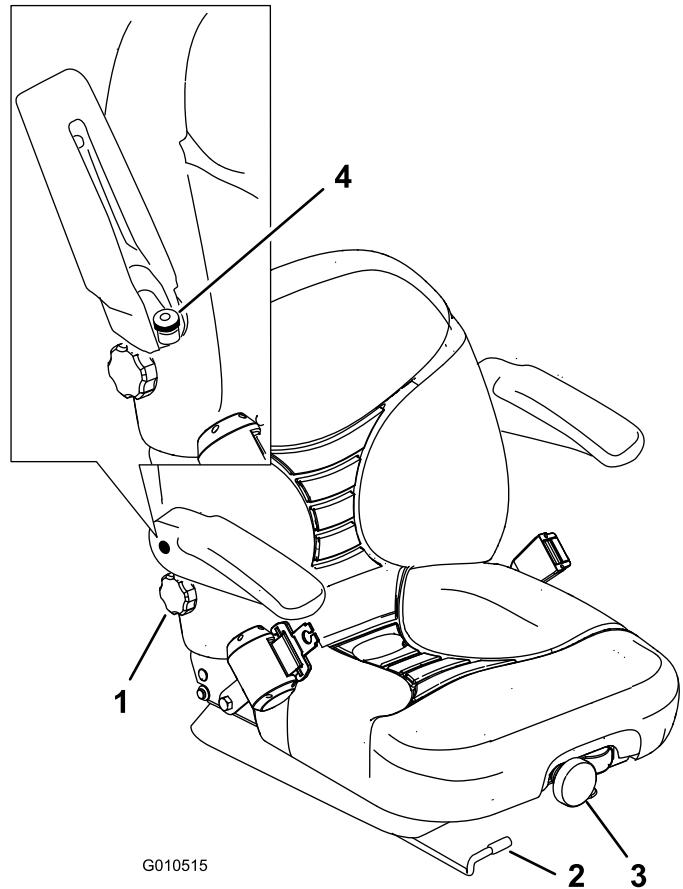

Figure 12
1. To adjust, push the lever downward to unlock seat (Figure 12).
To adjust it, turn the knob in front either direction to provide the best comfort (Figure 12).
To adjust it, raise the armrest and turn the knob in either direction to provide the best comfort (Figure 12).
To adjust it, turn the knob, under the right-side arm rest, in either direction to provide the best comfort (Figure 12).